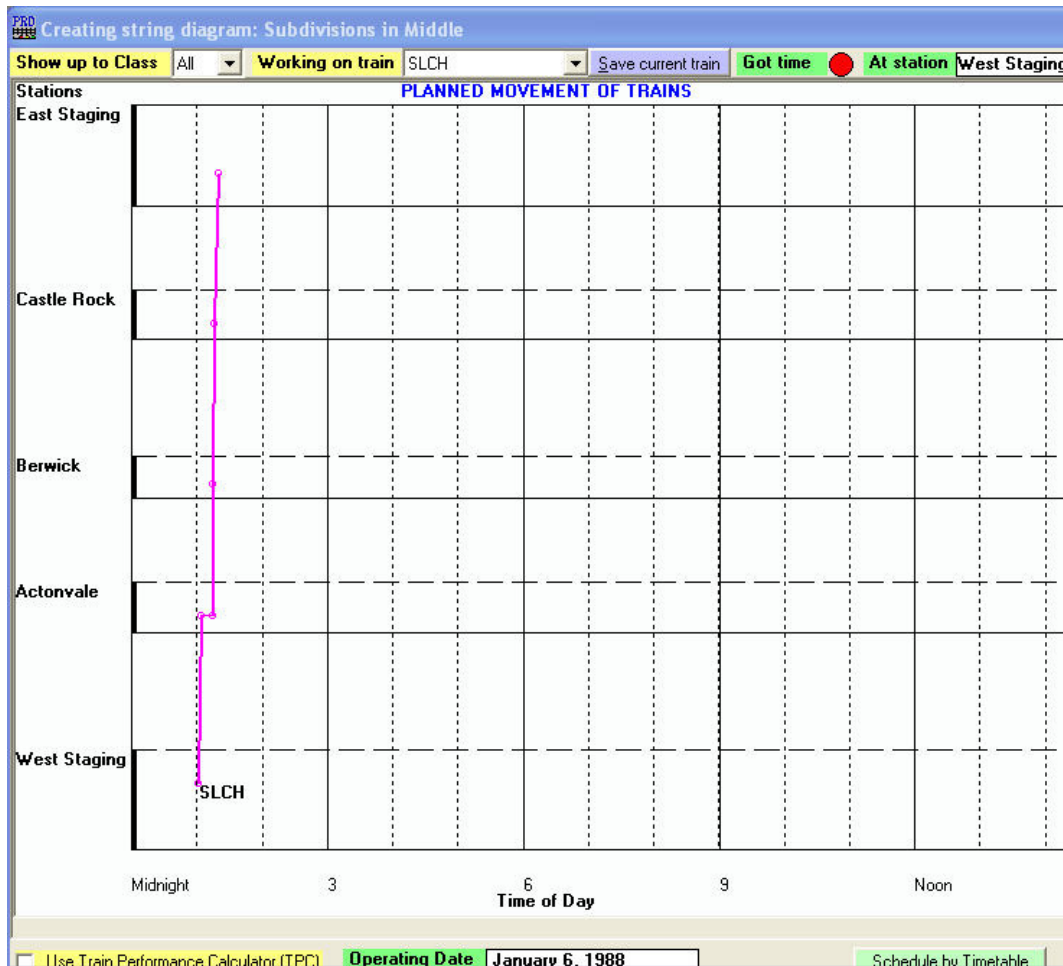
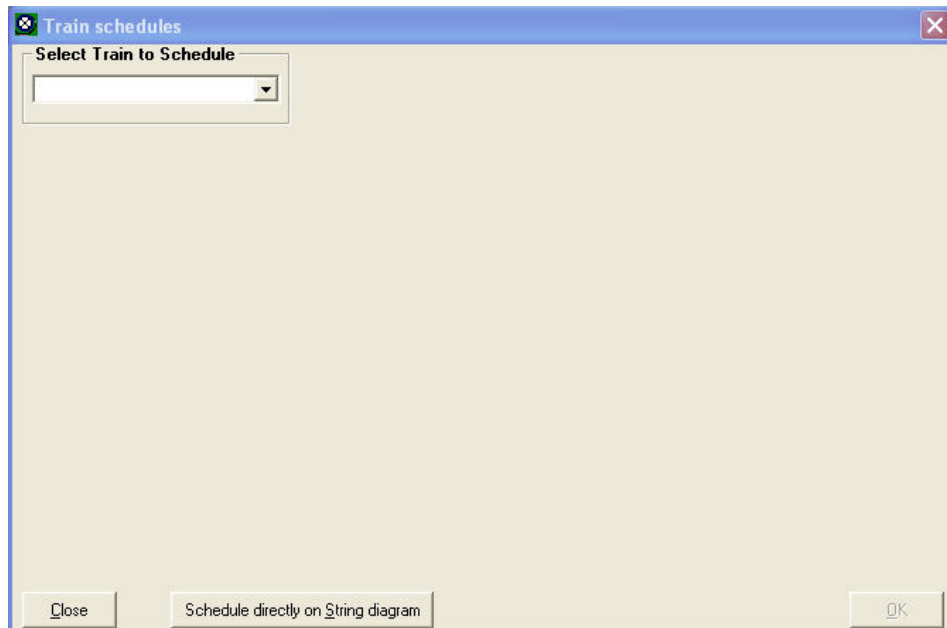

Figure 12-17
Figure 12-18
15. The one last item to check is the arrival time at East Staging. ProTrak has set the arrival time at East Staging at 1:12 am. Remember that we calculated it takes train SLCH 4 minutes to travel from Actonvale to East Staging. Since train SLCH left Actonvale at 1:12 am it will arrive at East Staging at 1:16 am (remember the train has to go around the reversing loop at the end of the staging tracks). Again click on the end of the line in "East Staging and drag the line to the right until the "New time" data field "1:16 AM". Once this has been done the "Creating string diagram..." window should look like Figure 12-17.
1. As you can see from the buttons at the bottom of the “Creating string diagram...” window shown in Figure 12-17, we can switch from String Diagram mode to Timetable mode by clicking on the button labeled “Schedule by Timetable” – let’s do that now. Once the switch has taken place you should see a window like the one in Figure 12-18.